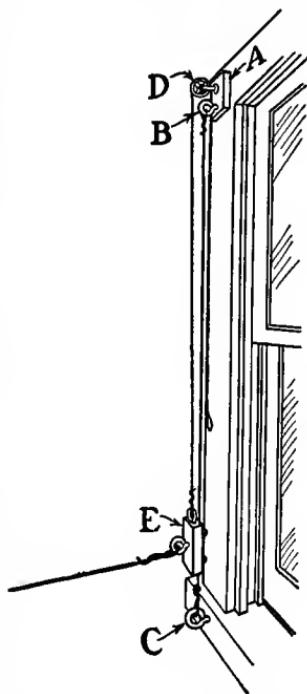

FIG. 549.—The Device for Raising and Lowering the Conveyor Cable.
veyors. You will see by this illustration, and the detail diagrams of Figs. 549 to 552, that a single wire extends from one point of communication to the other, and that the car runs by force of gravity — the end from which the car is started being hoisted enough higher than the opposite end to give the wire the necessary pitch. Figures 549, 550, and 551 show the details for making.
casing upon the outside of the window (Fig. 550); and screw a second screw-eye into the window-sill directly under *B* (*C*, Fig. 549). Cut another small block (*E*, Fig. 551), screw two screw-eyes into one face — one directly above the other (*F*, Fig. 551), and screw a third screw-eye into the opposite face (*G*, Fig. 551), and a fourth into the top (*H*, Fig. 551). Then fasten one end of a piece of heavy wire to screw-eye *B* in block *A*, and after running the other end through the eyes *F* in block *E*, slip it through screw-eye *C* in the window-sill, pull it taut, and fasten it.
**The Lifting Rope.** Tie a piece of clothes-line to screw-eye *H* in the top of block *E*, run it up and over the pulley *D*, and bring it down to within a foot or so of the window-sill (Fig. 549). This is the lifting rope. A loop made in the free end can be slipped over a nail in the window-casing, to keep the rope within easy reach.